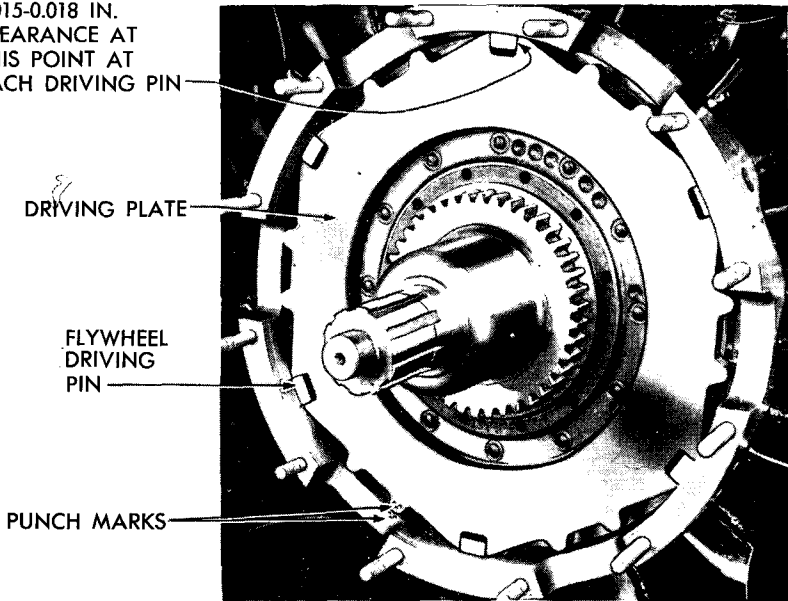

Figure 251 – Installing Driving Plate
i. Install Driving Plate. Line up prick punch marks on flywheel and driving plate. Install driving plate over spindle, and over the six flywheel driving pins (fig. 251). Check clearance between flywheel driving pins and driving plate. If the clearance is not between 0.015 and 0.018 inch on the drive side of each flywheel driving pin, remove driving plate, and file recesses until proper clearance is obtained (fig. 251).